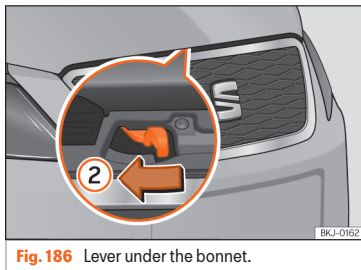

Fig. 186 Lever under the bonnet.
- To lift the bonnet, press towards the left on the lever located under the bonnet, in the centre »» Fig. 186 ②. The arrester hooks are released.